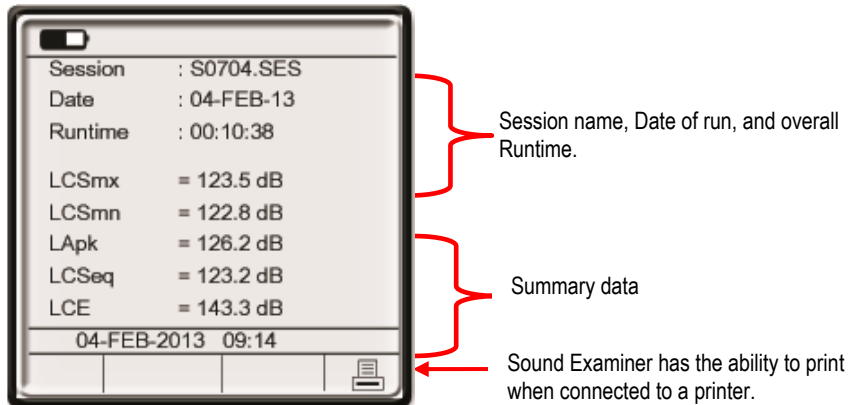

Figure 4-12: Reviewing Session Data
5. When selected, the session summary screen appears as indicated in Figure 4-12.